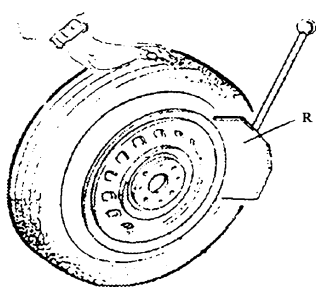

Fig 5
Ensure to exhaust air in the tyre completely, place the tyre against the rubber buffer (S). Bring the shovel (R) against the bead about 10mm from the edge of the rim shown as **Fig 5**. Tread Bead breaker Pedal (U) to press shovel into tyre. Repeat the above operations on different positions around the tyre and both sides of tyre until tyre bead is released completely.